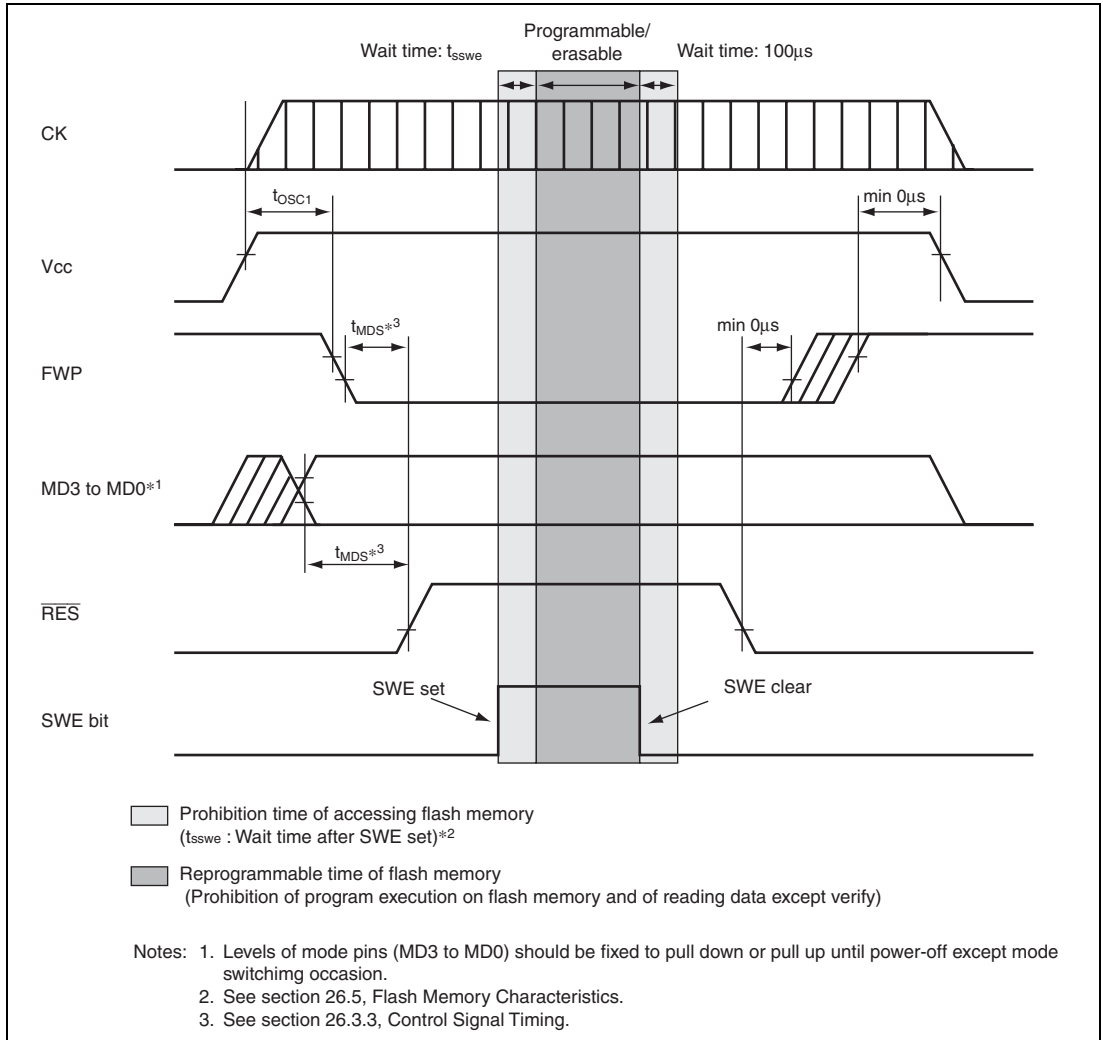

**Figure 19.11 Power On/Off Timing (Boot Mode)**
**Powering on and off (see figures 19.11 to 19.13):** Do not apply a low level to the FWP pin until  $V_{cc}$  has been stabilized. Also, drive the FWP pin high before turning off  $V_{cc}$ . If  $V_{cc}$  is to be applied or disconnected, fix the FWP pin level at  $V_{cc}$  and place the flash memory in the hardware protection state in advance.
**FWP application/disconnection (see figures 19.11 to 19.13):** If  $V_{cc}$  is on or off while low level is applied to FWP pin, a voltage surge from low level on the RESET pin may cause unintentional programming or erasing of flash memory. Applying voltage to FWP should be carried out while MCU operation is in a stable condition. If MCU operation is not stable, fix the FWP pin high and set the protection state. The following points must be observed concerning FWP application and disconnection to prevent unintentional programming or erasing of flash memory: